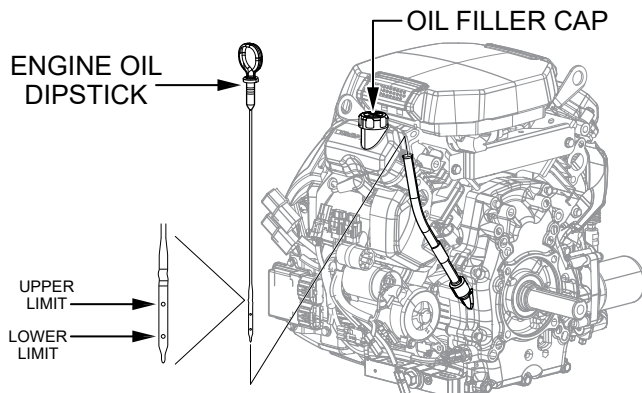

Figure 32. Engine Oil Dipstick And Filler Cap
2. Pull the **engine oil dipstick** (Figure 32) out of its holder and wipe it with a clean rag.
4. Determine if engine oil is low. Oil should be between the **upper and lower marks** (Figure 32) on the dipstick.
5. If the oil is below the lower mark on the dipstick, remove the **oil filler cap** (Figure 32) and add engine oil up to the upper mark on the dipstick. Refer to Table 6 for recommended oil viscosity.
1. Remove the **oil filler cap** (Figure 32) to allow the oil to drain easily.